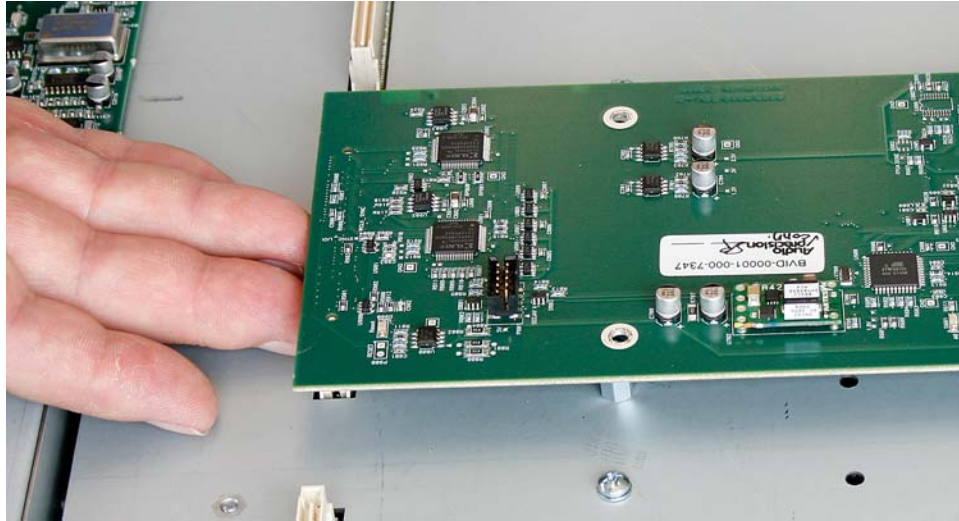

Figure 3 Unplugging the BVID board
4. Gently lift the end of the BVID board to unplug it from the connector, as shown in figure 3.